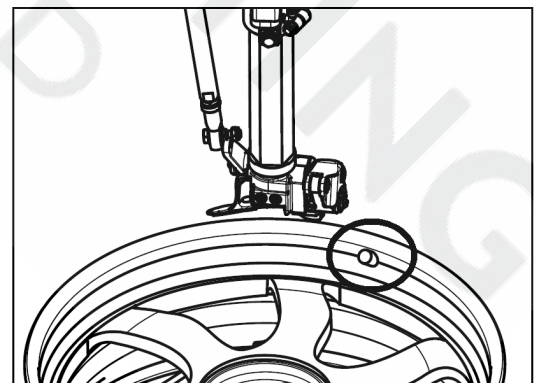

FIG28
- If there has inner tube in tire, in order to avoid damage the inner tube, the demounting hook should be operated about 10cm away from the left side of the valve as shown in FIG28.